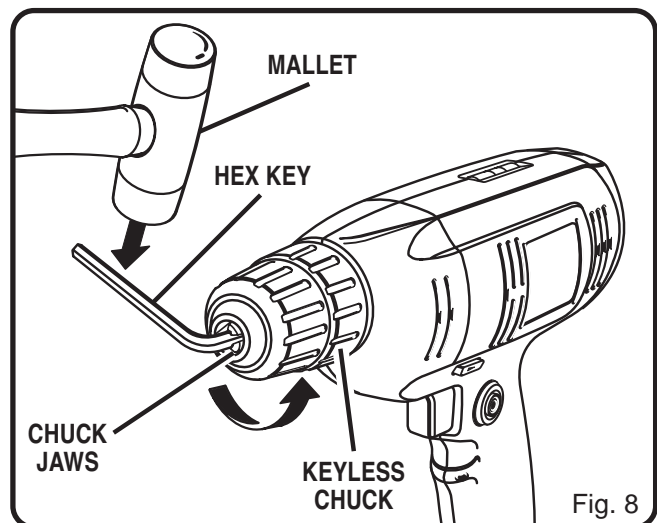

Fig. 8
See Figure 8.
- Tap the hex key sharply with a mallet in a counterclockwise direction. See Figure 8.
- It can now be unscrewed by hand. See Figure 8.